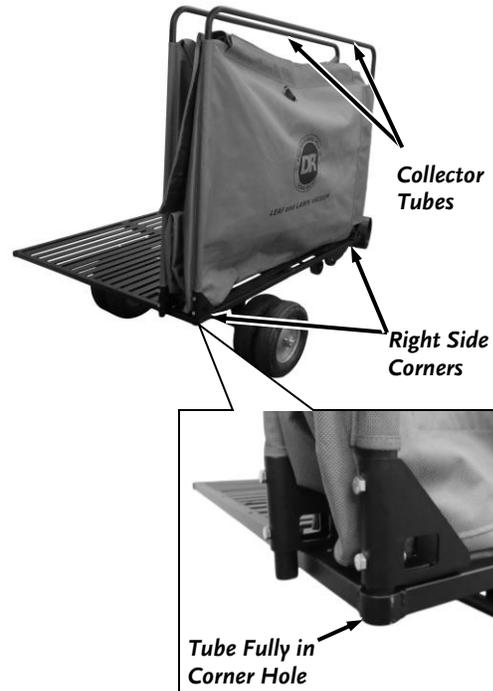

Figure 25
15. Stand up the Enclosure so the Brackets are resting on the Bed. Insert the two ends of the right side Collector Tube into the holes at the corners of the Collector Base (**Figure 25**).